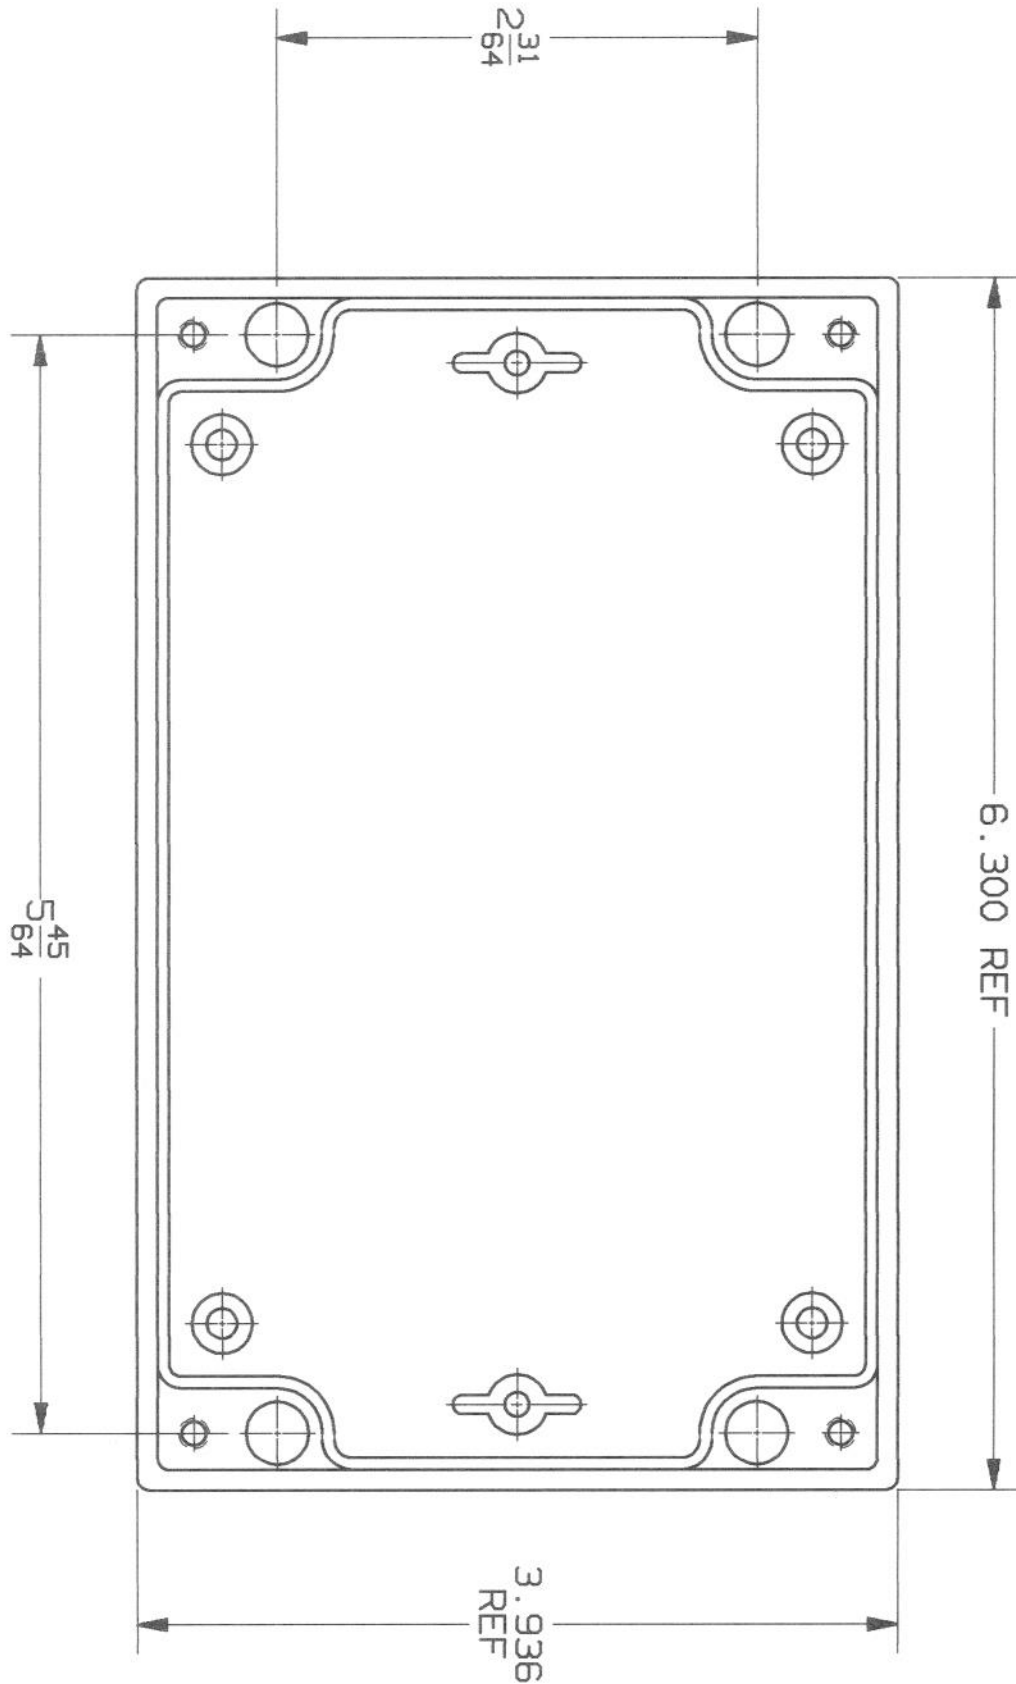

Figure 3: M-RIM Mounting Template
- Drilling Template (**Figure 3**)